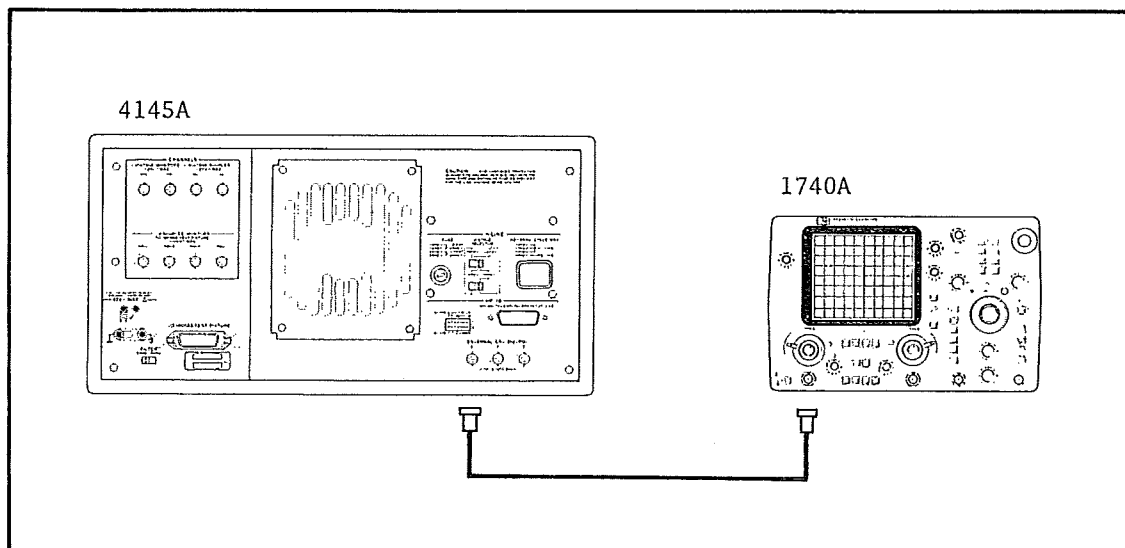

Figure 4-14. External CRT X-Y-Z Output Check Setup.
2. Connect channel A (or channel B) input to the EXTERNAL CRT X-output as shown in Figure 4-14.